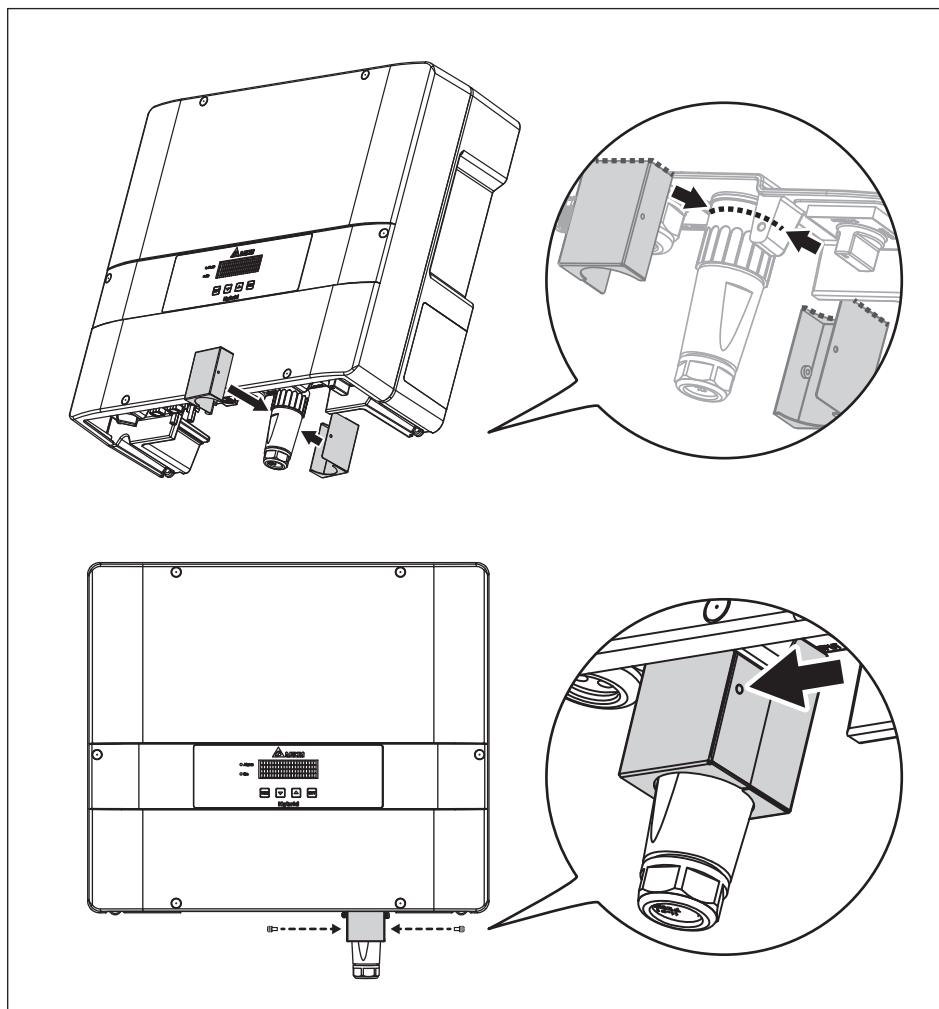

Figure 4-6 : AC Plug Shield Assembly
1. There has a slot at well installed AC plug's upper side. Please refer to the dotted line in **Figure 4-6**. Assemble 2 metal parts of AC plug shield at this slot.